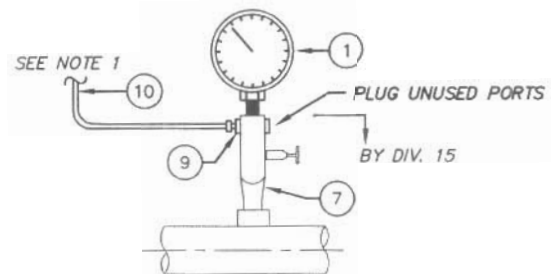

FIG. 4 CLEAN SERVICE
1. TO REMOTE MOUNT PRESSURE SWITCH OR OTHER GAUGE VALVES (FIG. 4 ONLY) WHEN REQUIRED BY APPLICATION. SEE DWG. ISD-08.